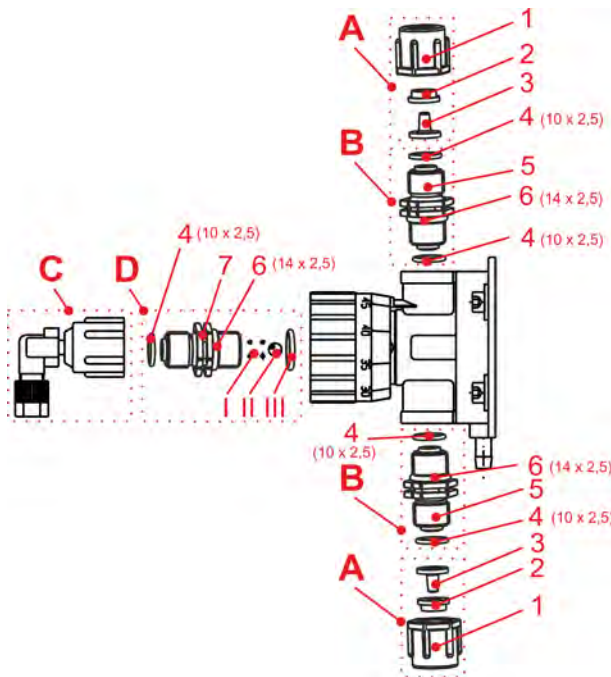

Fig. 86: Replacing the suction / return valve
2. → Suction valve and pressure valve (☞ *Chapter 11.1 'Austausch von Saug- / Rücklauf- und Druckventil' on page 108, Fig. 86*) for dirt and impermeability.